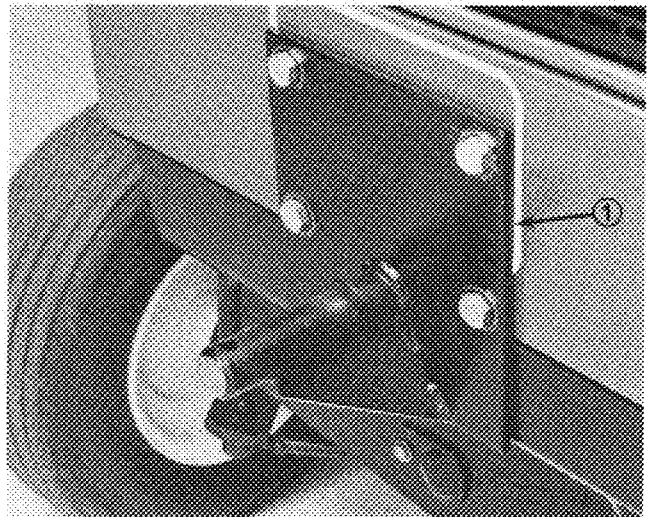

Figure 8
8. Position rear hopper bracket on rear frame, as shown in figure 8, aligning (2) bottom mounting holes with holes in frame. Using bracket as a guide, locate, mark and drill the remaining (2) 9/16" dia. holes in rear frame.
9. Mount top of rear hopper bracket to frame using (2) 1/2 - 13 x 1-1/4" lg. capscrews, mounting strap and (2) 1/2 - 13 locknuts (Fig. 8). Strap to be positioned between frame and locknuts.